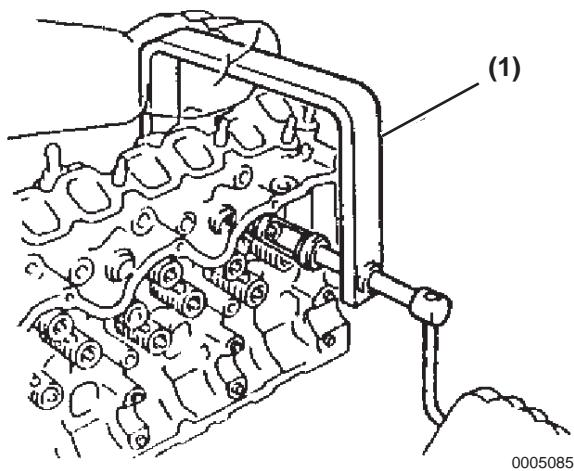

Figure 5-58
3. Using special tool P/N 119770-02000 (**Figure 5-58, (1)**) compress the valve spring and install the spring retainer.